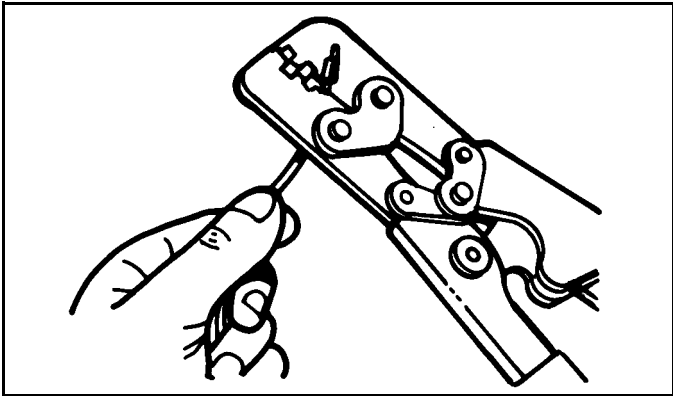

Figure 3-19
5. Place proper size contact on wire and use Crimper (#96102500) to crimp contact in place with a “W” type crimp. (See Figure 3-19)